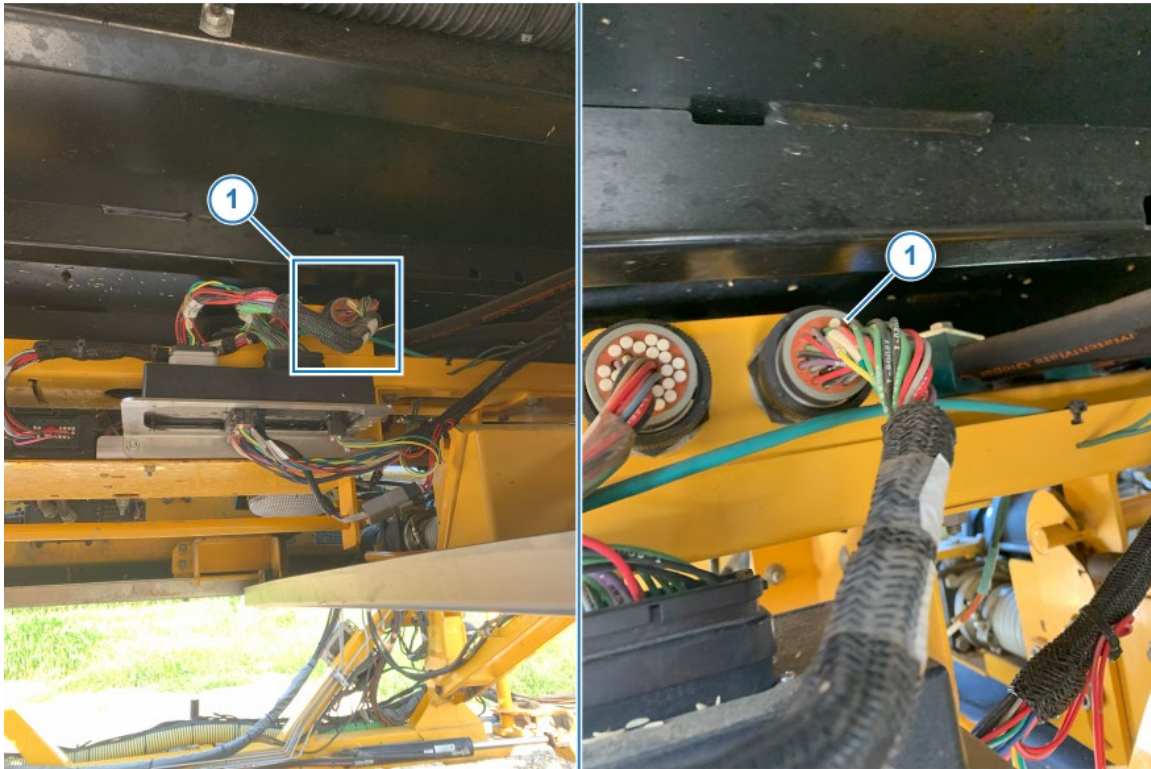

Figure 3 — Harness Connector
6. *Figure 3*: Plug the chassis harness into the 31-pin connector above the RCM mounting under the cab.